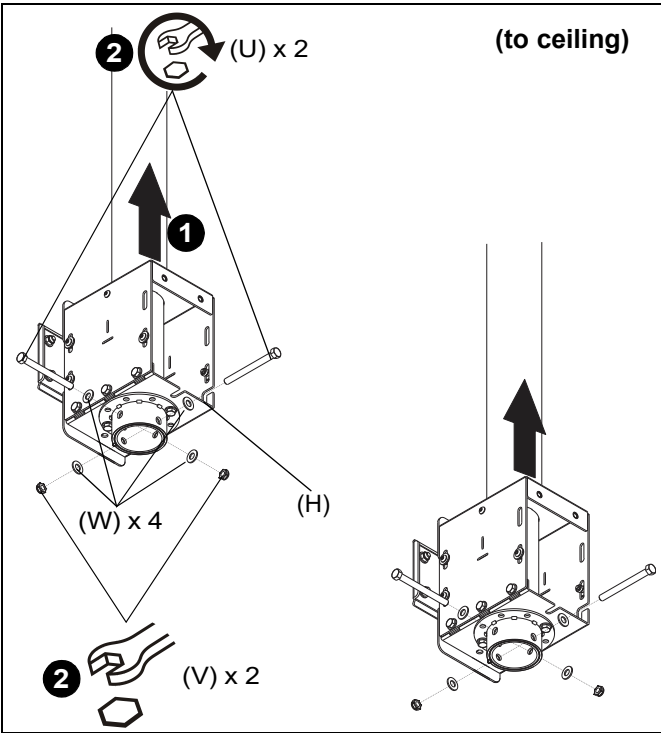
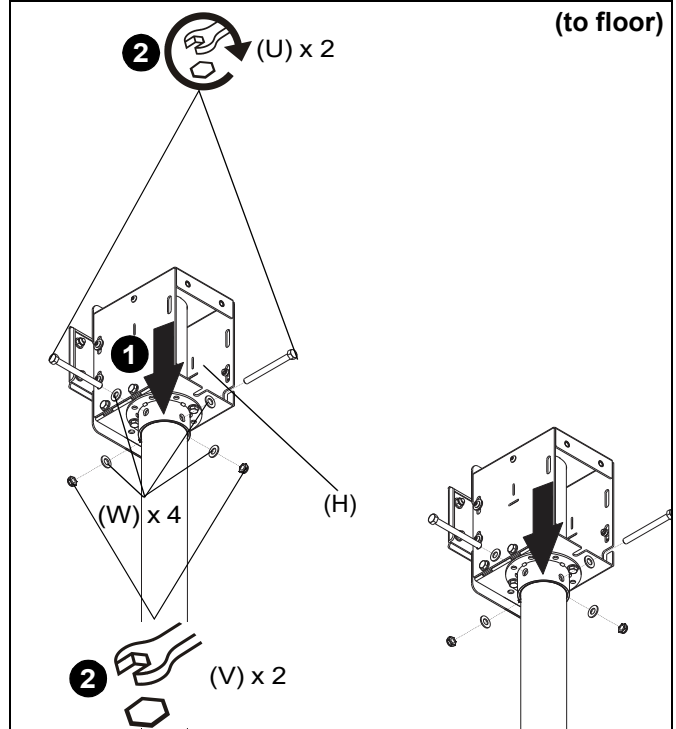

Figure 1
Figure 2
1. Slide mount assemblies (H) onto ODAC Series Floor/ Ceiling Columns. (See Figure 1) or (See Figure 2)
2. Use two 3/8-16 x 4" hex head tapping bolts (U), four 3/8" washers (W) and two 3/8-16 hex nuts (V) to secure each mount assembly (H) to each column. (See Figure 1) or (See Figure 2)